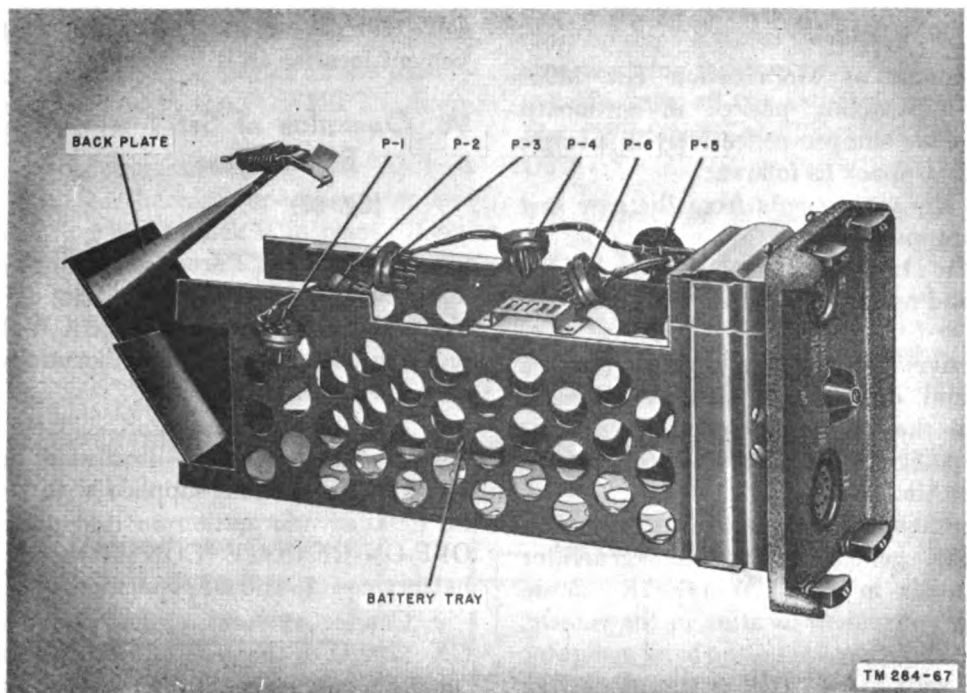

Figure 60. Case CY-590/GRC, case and batteries removed.
b. Loosen the Dzus fasteners on the panel of the battery case and remove the battery tray from the case (fig. 60).